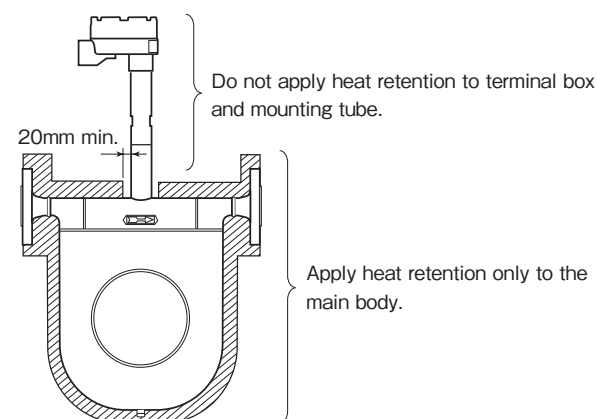

Fig.6.20
- (1) When installing heat retaining or cold retaining material on the sensor unit, apply heat retention or cold retention to only main body. As the fluid passes through the sensor case, heat retention or cold retention on the mounting tube and terminal box has no effect. Especially, in the case of high temperature type and low temperature explosionproof type, do not install heat retaining or cold retaining material within a distance of 20mm from the mounting tube so that the terminal box is protected against heat (heat and cold) (see Fig. 6.20).
- (2) For easy maintenance, a simplified heat retaining system is recommended on the sensor unit.
- (3) When covering the heat insulating material with outer sheath for heat retention or cold retention, if the natural frequency of the outer sheath is close to the frequency of the tube oscillating in the sensor unit *1, it may possibly cause some effect on the measurement.
- (4) Careful attention should be paid to the maximum permissible temperature when steam trace is applied. Trace temperature should be the same as that of the metered fluid. (⇒ See 3.1 Sensor Unit General Specifications).